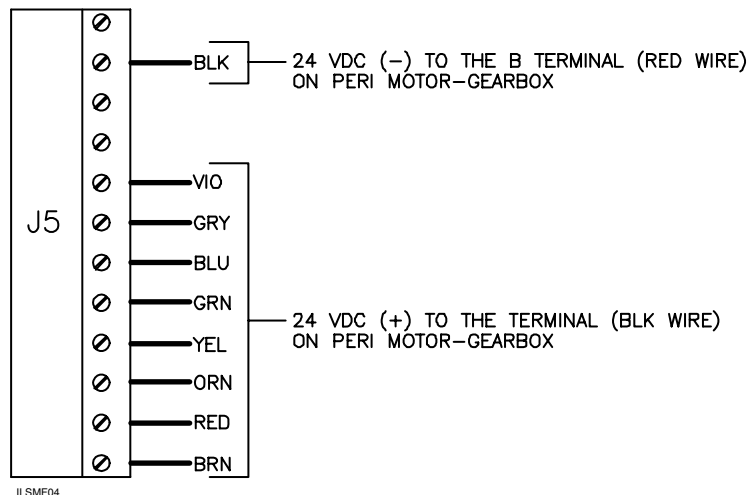
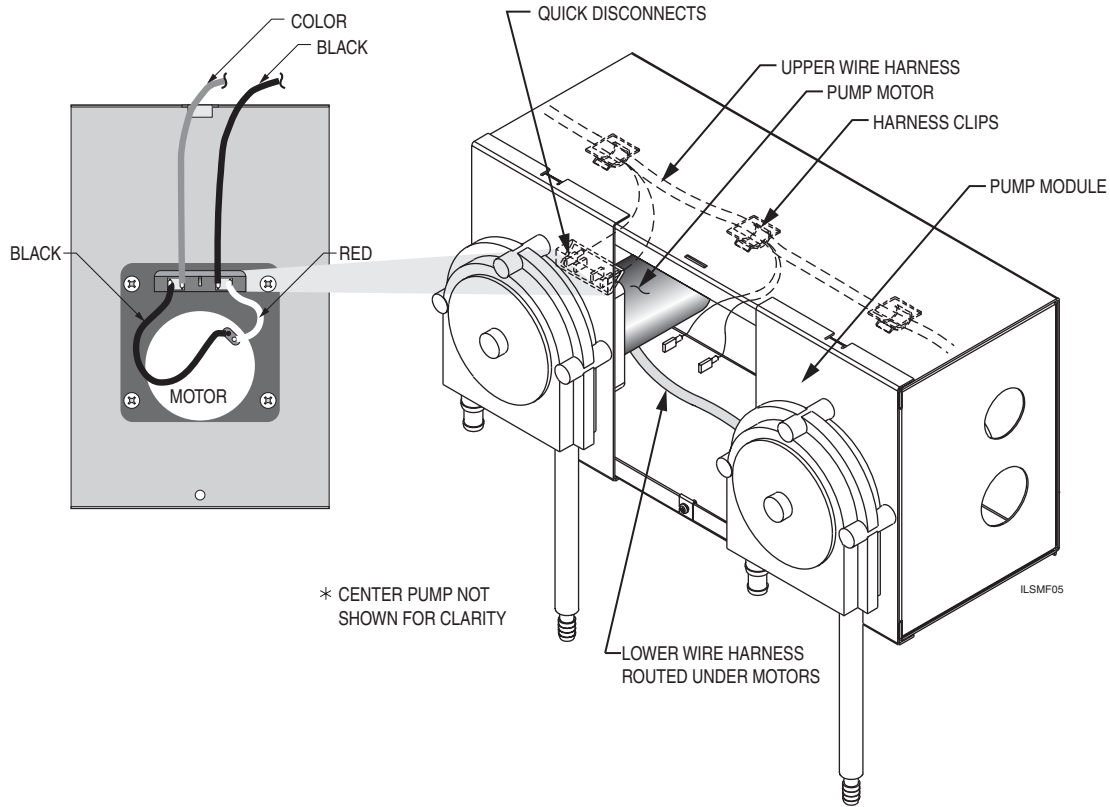

Figure 4. Upper Wire Harness Connections to Terminal Block
Figure 5. Pump Module to Pump Connection
11. Working from left to right, connect the quick disconnects of the upper wire harness to the terminals on the pumps. Connect the black harness wire to the red pump wire. See Figure 4 and Figure 5. Replace the pump plates (and pumps) in the pump modules as you work. Keep the lower wire harness under the pump motors.